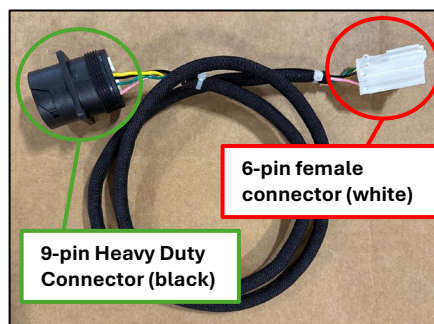

Figure 3
- a) Identify the white 6-pin female connector located on one end of the harness shown in Figure 3.
- b) Identify the black 9-pin heavy duty connector located on the other end of the harness Figure 3.
- The length of the main cable must not exceed 100 feet between the CAN Interface Converter connector and Control Unit 1 (Figure 3).
- If more than one control unit is connected, the length of the cables between the main cable and additional control unit should not exceed 40 inches (Figure 3).
- There should be at least 4 inches between the nodes of each control unit cable on the main bus cable (Figure 3).